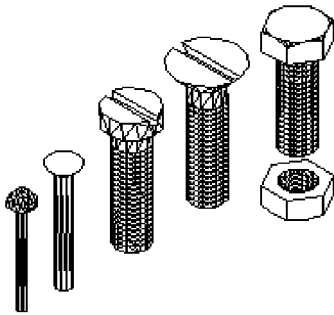

Fig. 15.5 Second example – the five fastenings
1. Construct a number of engineering fastenings. The number constructed does not matter. In this example only five have been constructed – a 10 mm round head rivet, a 20 mm countersunk head rivet, a cheese head bolt, a countersunk head bolt and a hexagonal head bolt together with its nut (Fig. 15.5). With the **Make Block** tool save each separately as a block, erase the original drawings and save the file to a suitable file name – in this example this is **Fig05.dwg**.